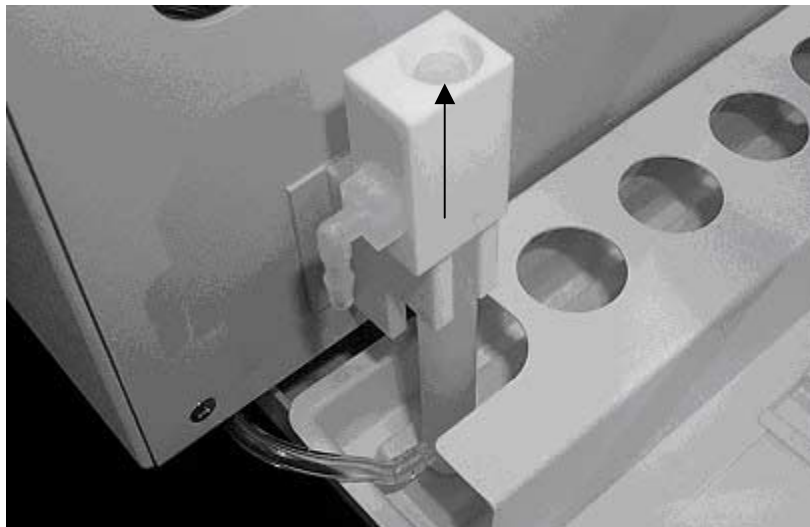

Figure 1-4. View of rinse station.
3. After the Z-drive assembly is removed, then raise up the rinse station. See Figure 1-4. Lift up the rinse station so you can easily remove the auto sampler tray.